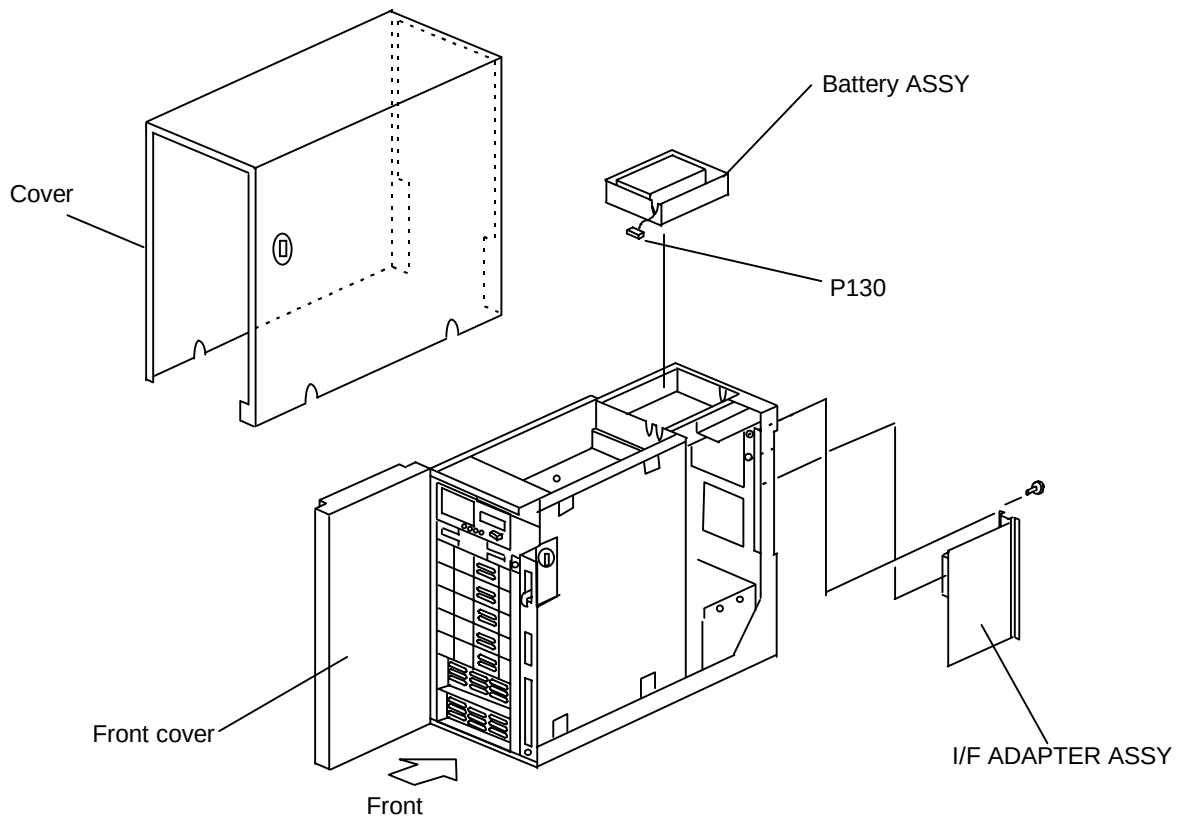

Figure 10.1 Replacing Battery ASSY
10. Replacing Battery ASSY (See Figure 10.1.)